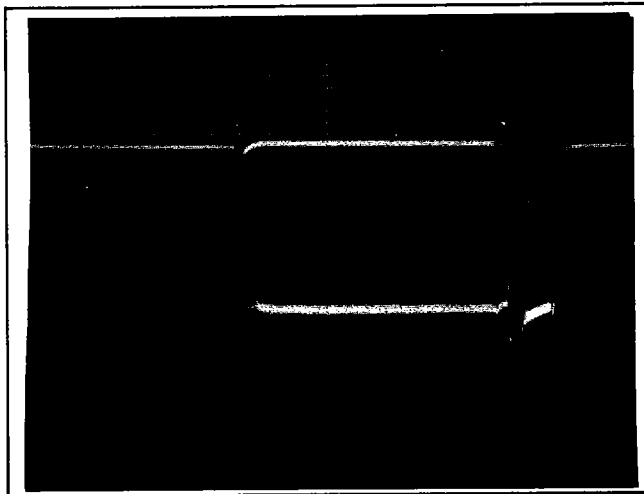

Figure E17 Before ADJ.
3. Adjust VR304 until the waveform is as small as possible. See Figure E17.